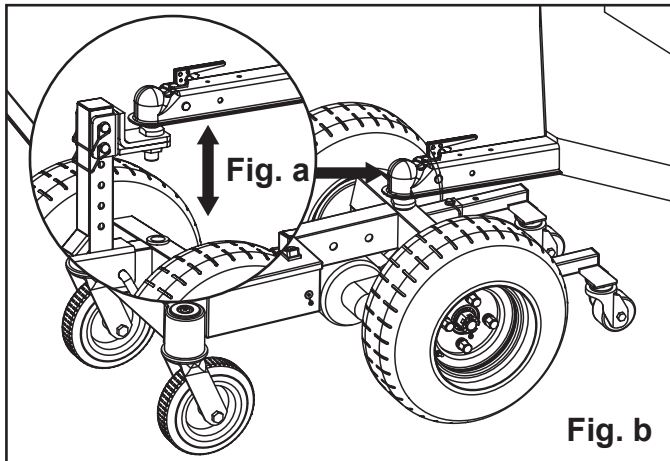

Fig.09
2. The hitch ball height of the dolly can be adjusted up and down (Figure a), or the hitch ball can be installed directly on the main frame (Figure b), with the lifting range of the hitch ball height: 17.2"-25.6". When installing the trailer, always make sure the connecting rod is parallel to the ground, because any tilt will affect the traction efficiency and even the safety risk of overturning (Figure c). **(Fig.09)**